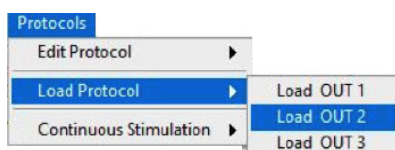

Fig. 49—The Position Output checkbox is in the upper left corner of the main window.
3. On the upper margin of the main window (Fig. 49), find the **Position (OUT1)** text box. The value to its right below the graph is the total duration of the selected position protocol.